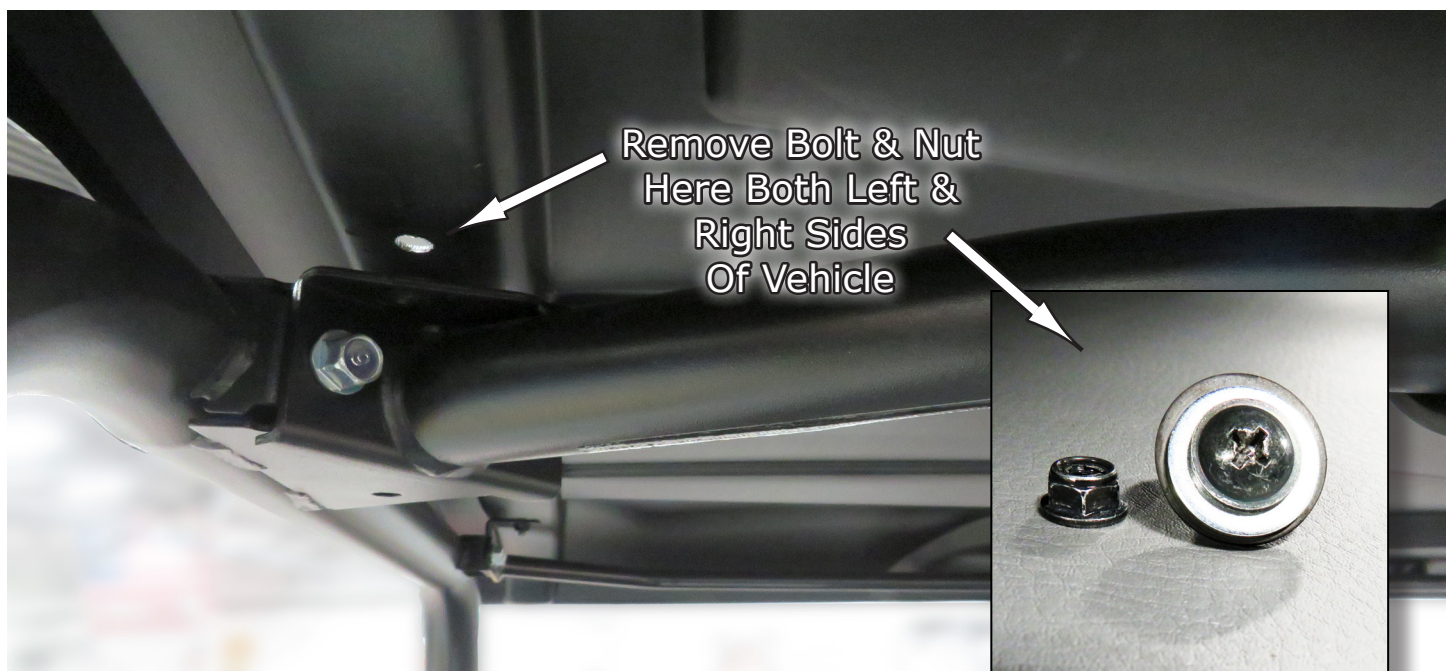

Fig.9
9. Now, to make the installation of the Upper Windshield Panel easier, you will need to remove the bolt and nut from the roof right above the cross bar where it bolts to the side frame. There is one on each side. You will reinstall after the Upper Windshield Panel is installed. See **Fig.9**.